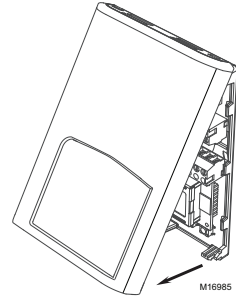

Fig. 2. Removing cover.
1. Open up by pulling on the bottom side of Repeater. (Fig. 2)